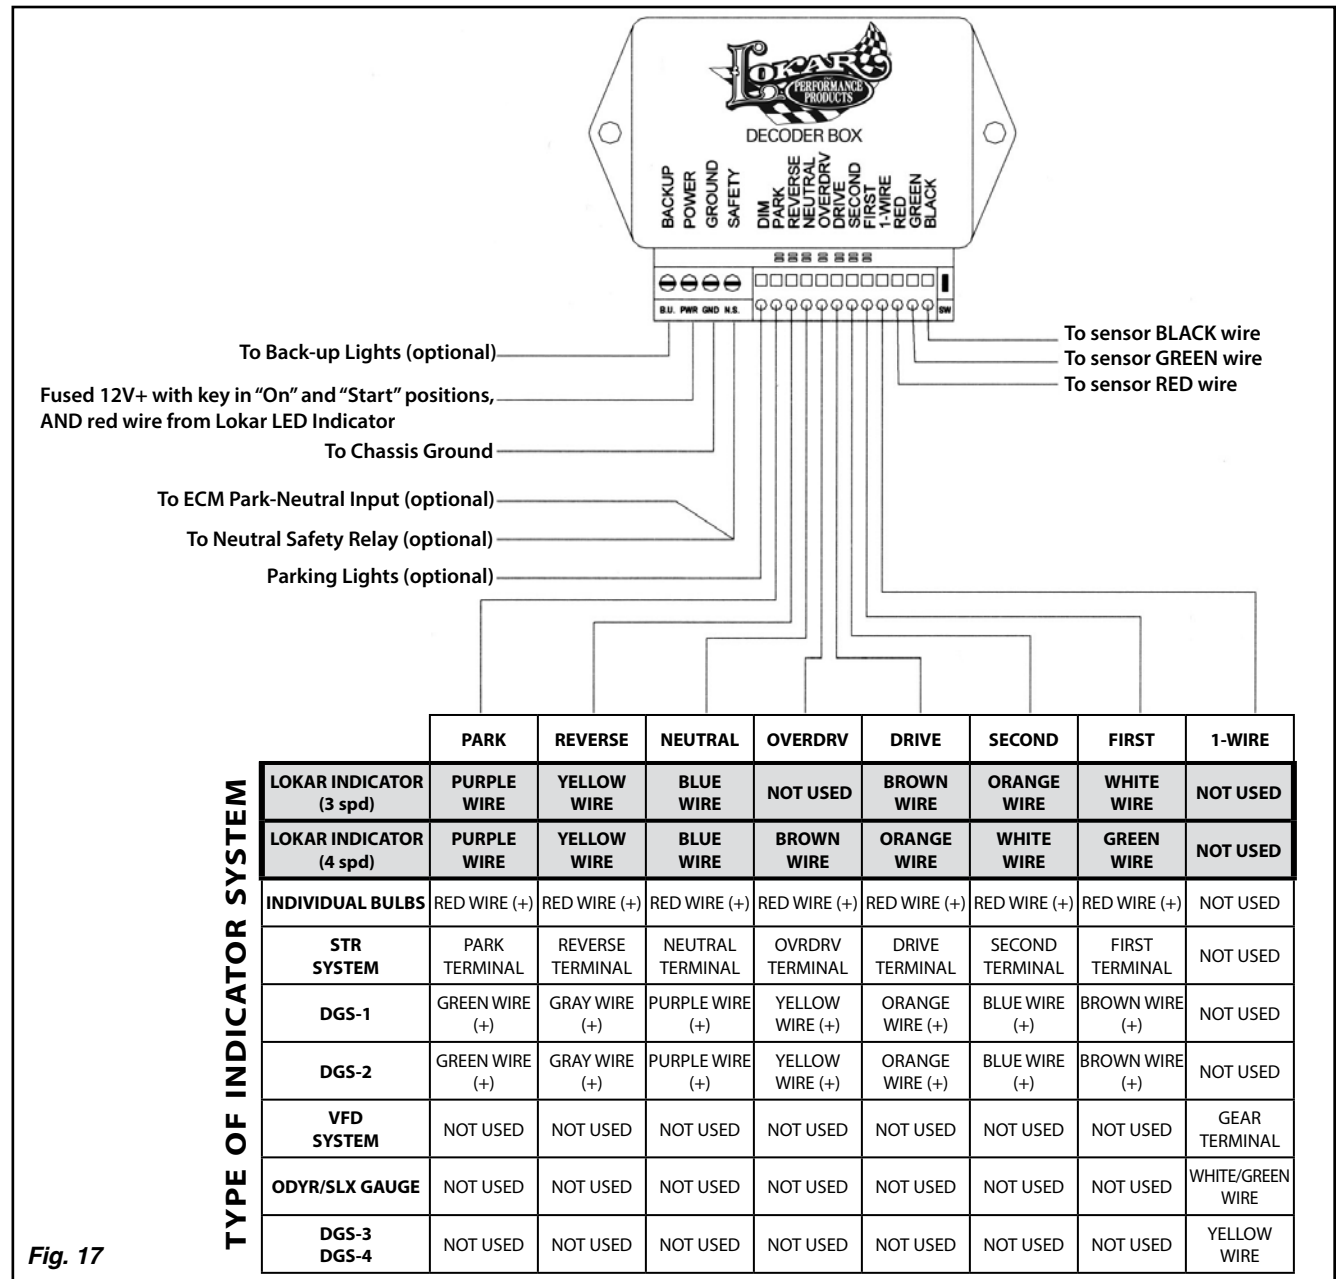

Fig. 17
Connect a solid chassis ground to the "GROUND" terminal on the decoder box. **Fig. 17**
Step 13: Following the wiring diagram in **Fig. 17**, connect the rest of the wires from the LED indicator to the decoder box.
Step 14: Following the wiring diagram in **Fig. 17**, connect the rest of the wires from the LED indicator to the decoder box.